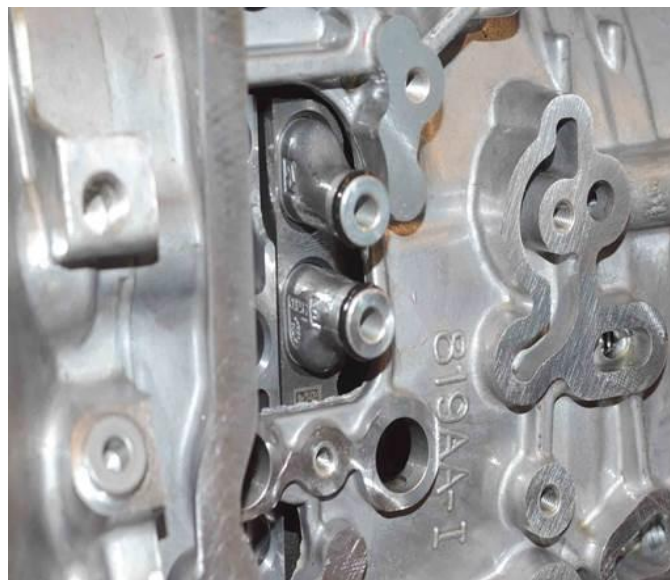

Fig. 25 Transmission Fluid Adapter Tube Orientation
- 60. Install the 6 valve body fluid adapter tubes, using new o-rings, into the transmission. Ensure the 2 oblong adapter tubes are properly oriented. See (Fig. 25).